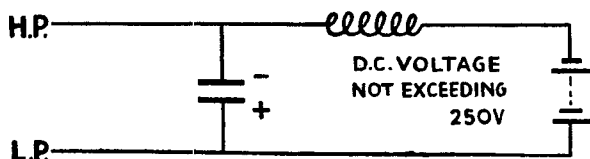

Fig. 7
- (2) Condenser is connected in parallel with choke of value greater than 30H. D.C. polarising voltage is applied from battery and Electronic Testmeter leads are then connected across the condenser. (See Fig. 7.)